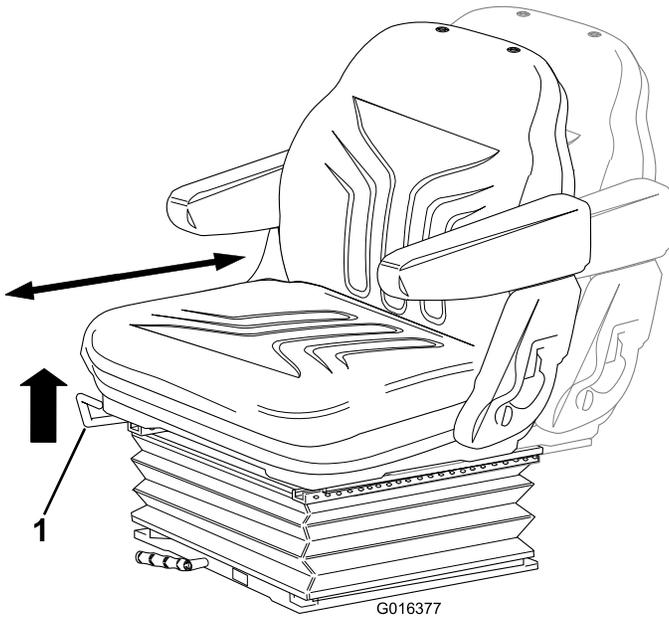

Figure 22
- **Fore/Aft Adjustment:** Move the lever upward to adjust the fore/aft position of the seat. Release the lever to lock the seat in position (Figure 22).